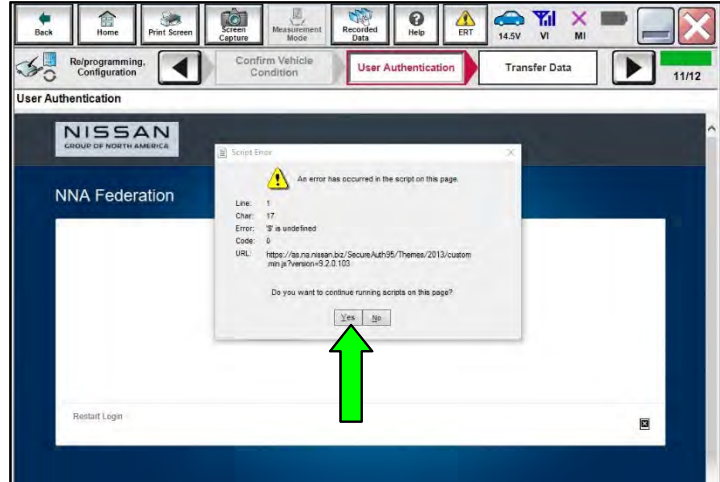

Figure 1
8. If the Script Error shown in Figure 1 is present, select **Yes**.